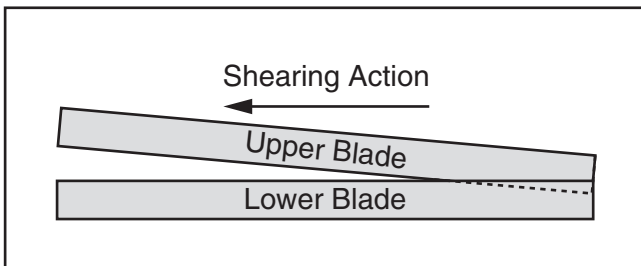

Figure 6. Blade shearing action.
- The shearing action of the blades works similarly to a pair of scissors (see the illustration in **Figure 6**). Use even pressure on the cutting lever to produce good results.